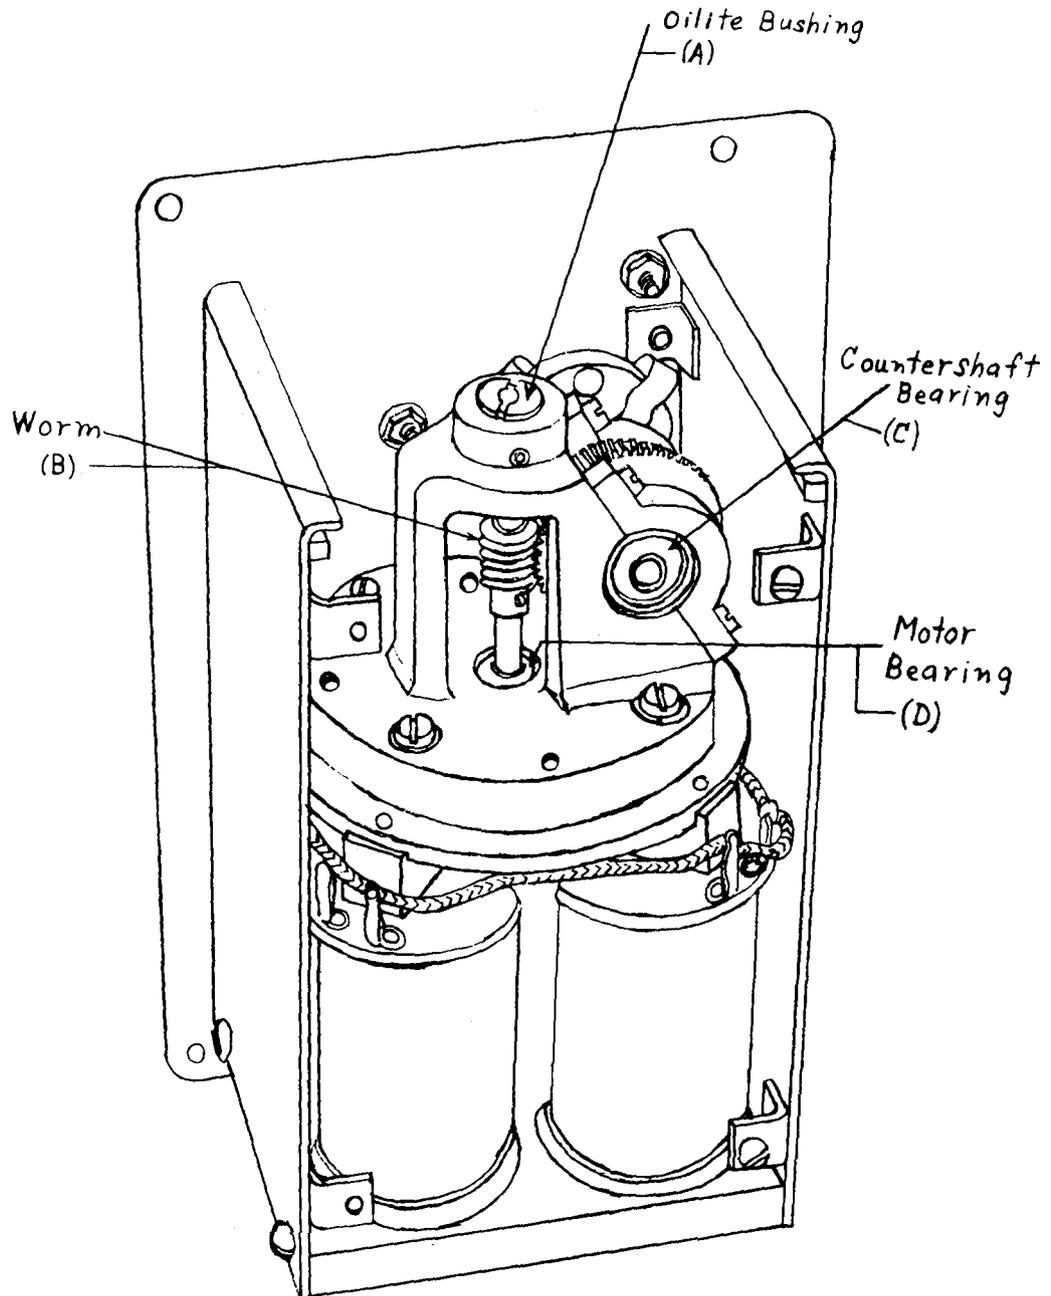

FIG. 1 - 6B Control Unit
- Fig. 1(A) - Oilite bushing
- Fig. 1(B) - Worm
- Fig. 1(C) - Front bearing for countershaft
- Fig. 1(D) - Motor bearing